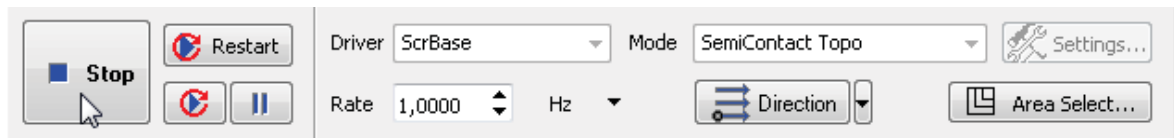

Fig. 8-23. Control panel of the **Scanning** window in the course of scanning
- The **Restart** button becomes enabled and caption of the **Run** button changes to **Stop** (see Fig. 8-23).